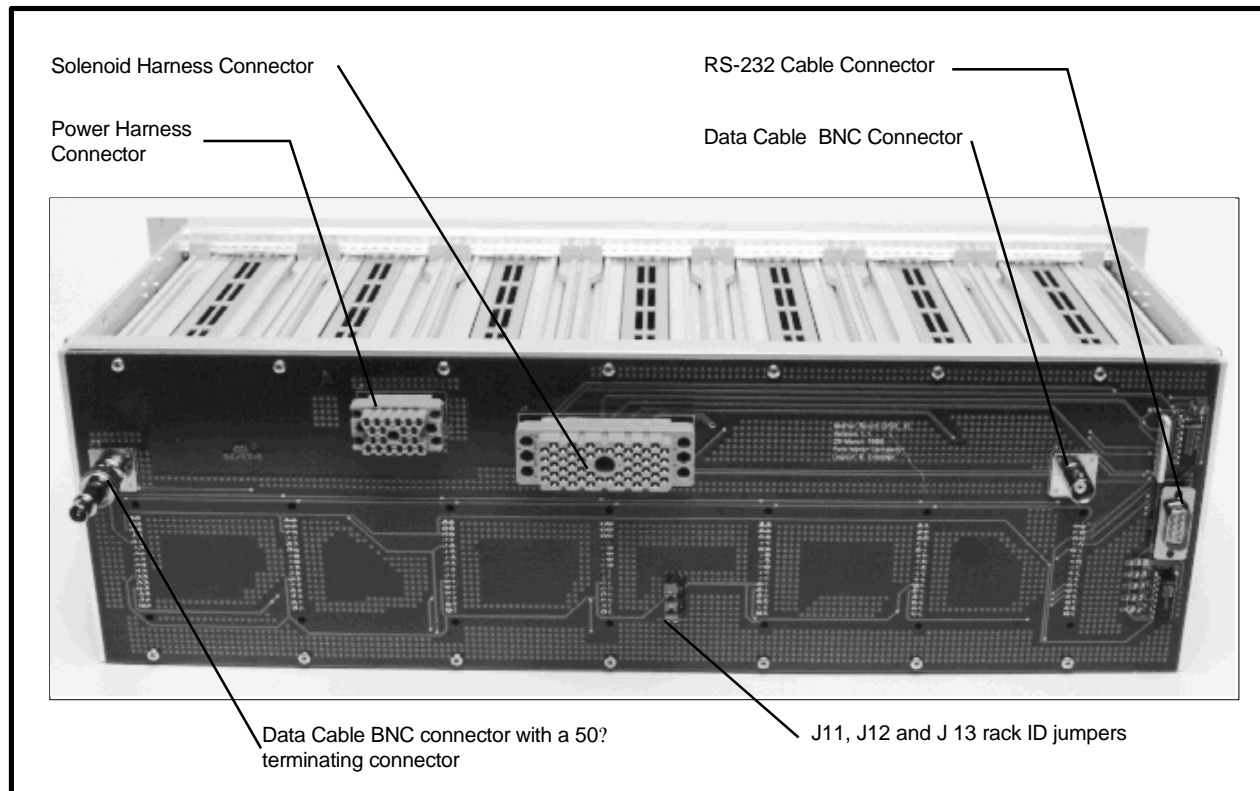

Figure 2: Rear view of the USD II, showing each connector
The rear of the mother board has several connectors identified below (see Figure 2). Following is a description of each connector's function.
2. Connect the 56 pin solenoid cable, power cable and RS-232 cable into their mating connectors located on the USD II's mother board (see figure 2 from section 3 to identify the location of the connectors).